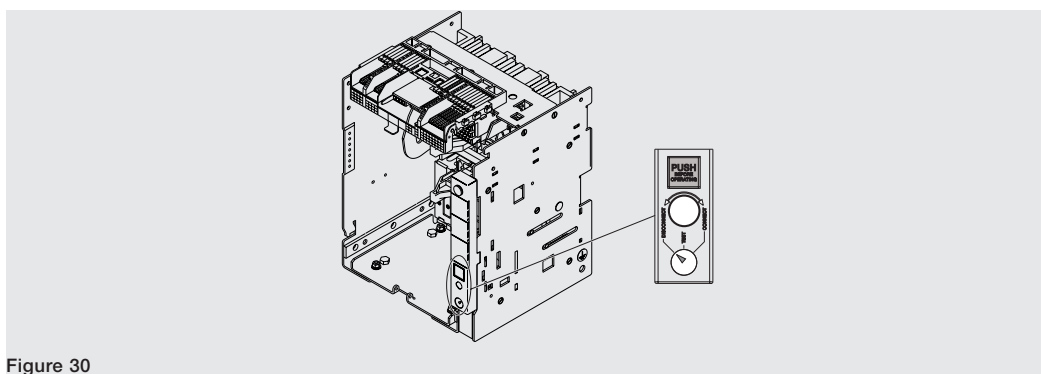

Figure 30
2. Make sure that signalling device on the fixed part indicates the **DISCONNECT** position. See Figure 30.